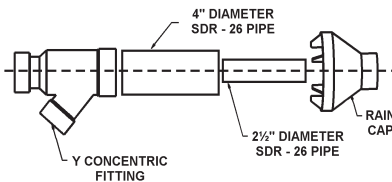

FIGURE 20.
- Cement Y concentric fitting to larger diameter kit pipe, see Figure 20.
NOTE: If assembly needs to be extended to allow side wall thickness requirement, the 2 pipes supplied in the kit may be replaced by using same diameter, field-supplied SDR-26 PVC (D2241) pipe. Do not extend 21 1/8" dimension more than 60 in. (See Figure 20.)